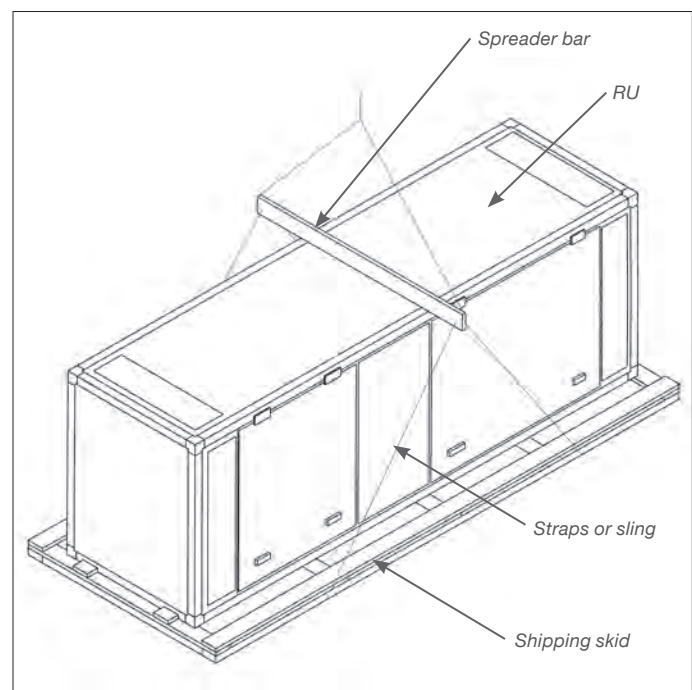

Figure 1
**1.2.3 Handling and Storage:** Following receipt, inspection, and acceptance of the equipment, and prior to installation, the RU and the particulate and gas-phase filters should be handled with great care. The RU may ship mounted vertically or horizontally on a pallet for protection during shipping and handling. It is recommended that it remains on its pallet until it has been moved to its final installation location. Only personnel experienced in rigging and handling equipment should be employed for this task. In most cases, the RU may be moved using a forklift. A suggestion for rigging horizontally shipped equipment is shown in Figure 1. Rig the housing using straps or a sling. Fasten the strapping under the skid on which the RU ships. To prevent damage to the exterior surface of the RU, use spreader bars at all times. Position the spreader bars to keep the cables from rubbing against any part of the housing. Before hoisting, make sure that the load is properly balanced.